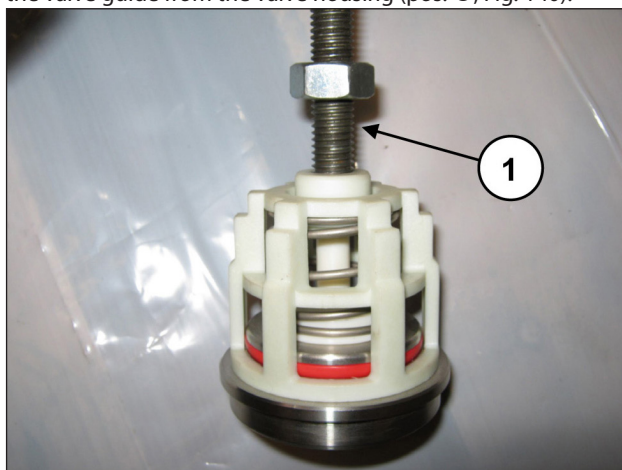

Fig. 140
Remove the suction and outlet valve units, unscrewing an M10 screw in such a way to press on the inner guide and remove the valve guide from the valve housing (pos. ①, Fig. 140).